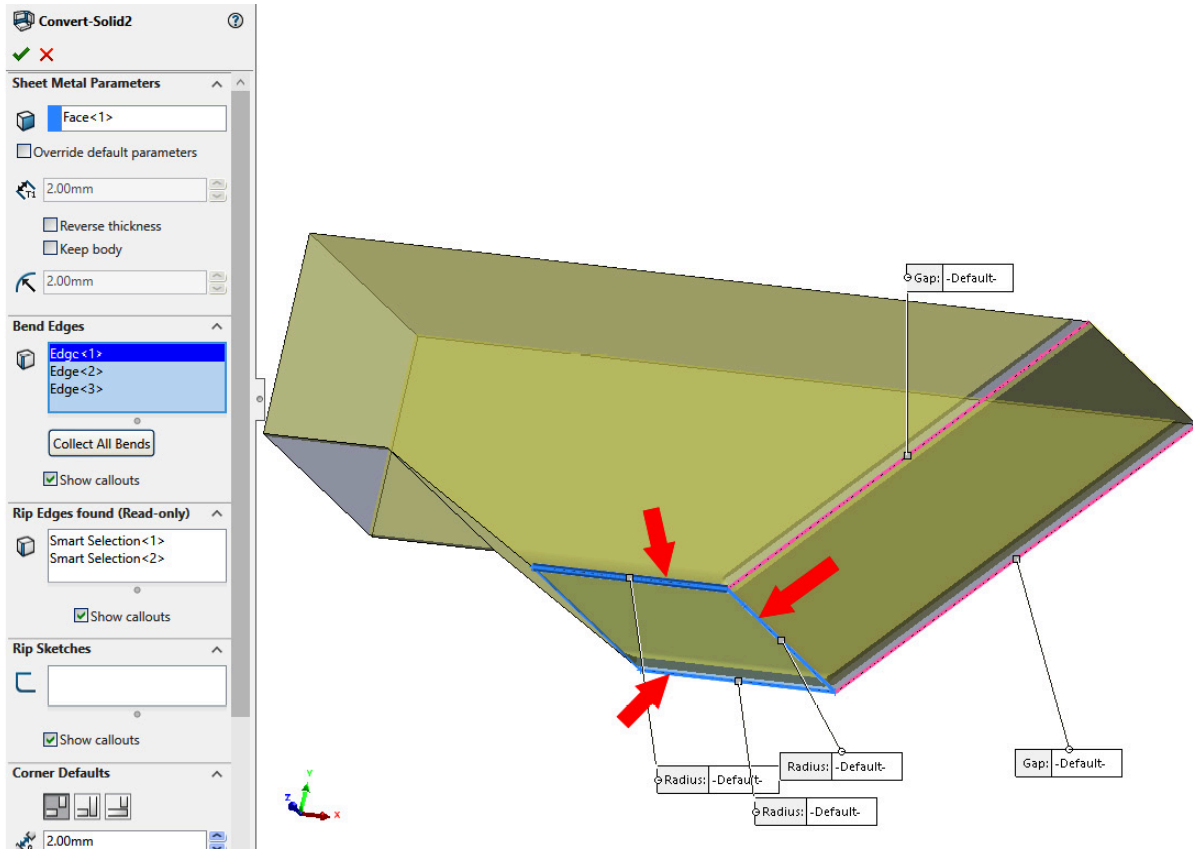

Figure 12.7: Select a third Bend Edge
12. We will now add further **Bend Edges** and look at how **Rip Edges** can be used. Keep the two existing **Bend Edges** and add a third edge, as shown in *Figure 12.7*.
13. Notice that the **Rip Edges** selection box has now been automatically filled by the two edges highlighted in pink in *Figure 12.7*. This selection is automatic because if we create bends at the three locations that we have selected then the pink edges must be ripped, otherwise, the bend faces wouldn't be able to fold flat.